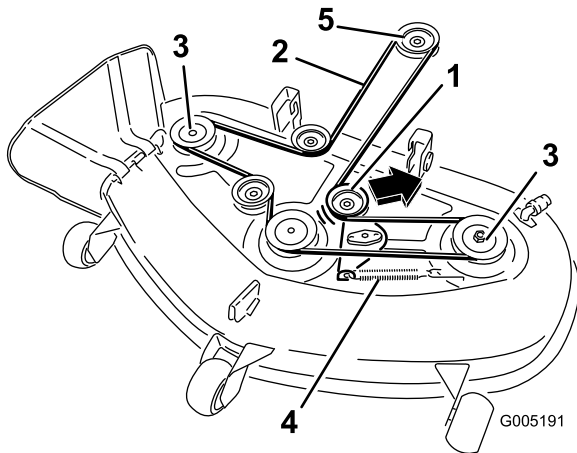

Figure 46
- Pull the idler pulley in the direction shown in Figure 46 and roll the belt off of the pulleys.
- Route the new belt around the engine pulley and mower pulleys (Figure 46).
- Pull the idler pulley in the direction shown in Figure 46 and route the belt onto the idler pulley (Figure 46).